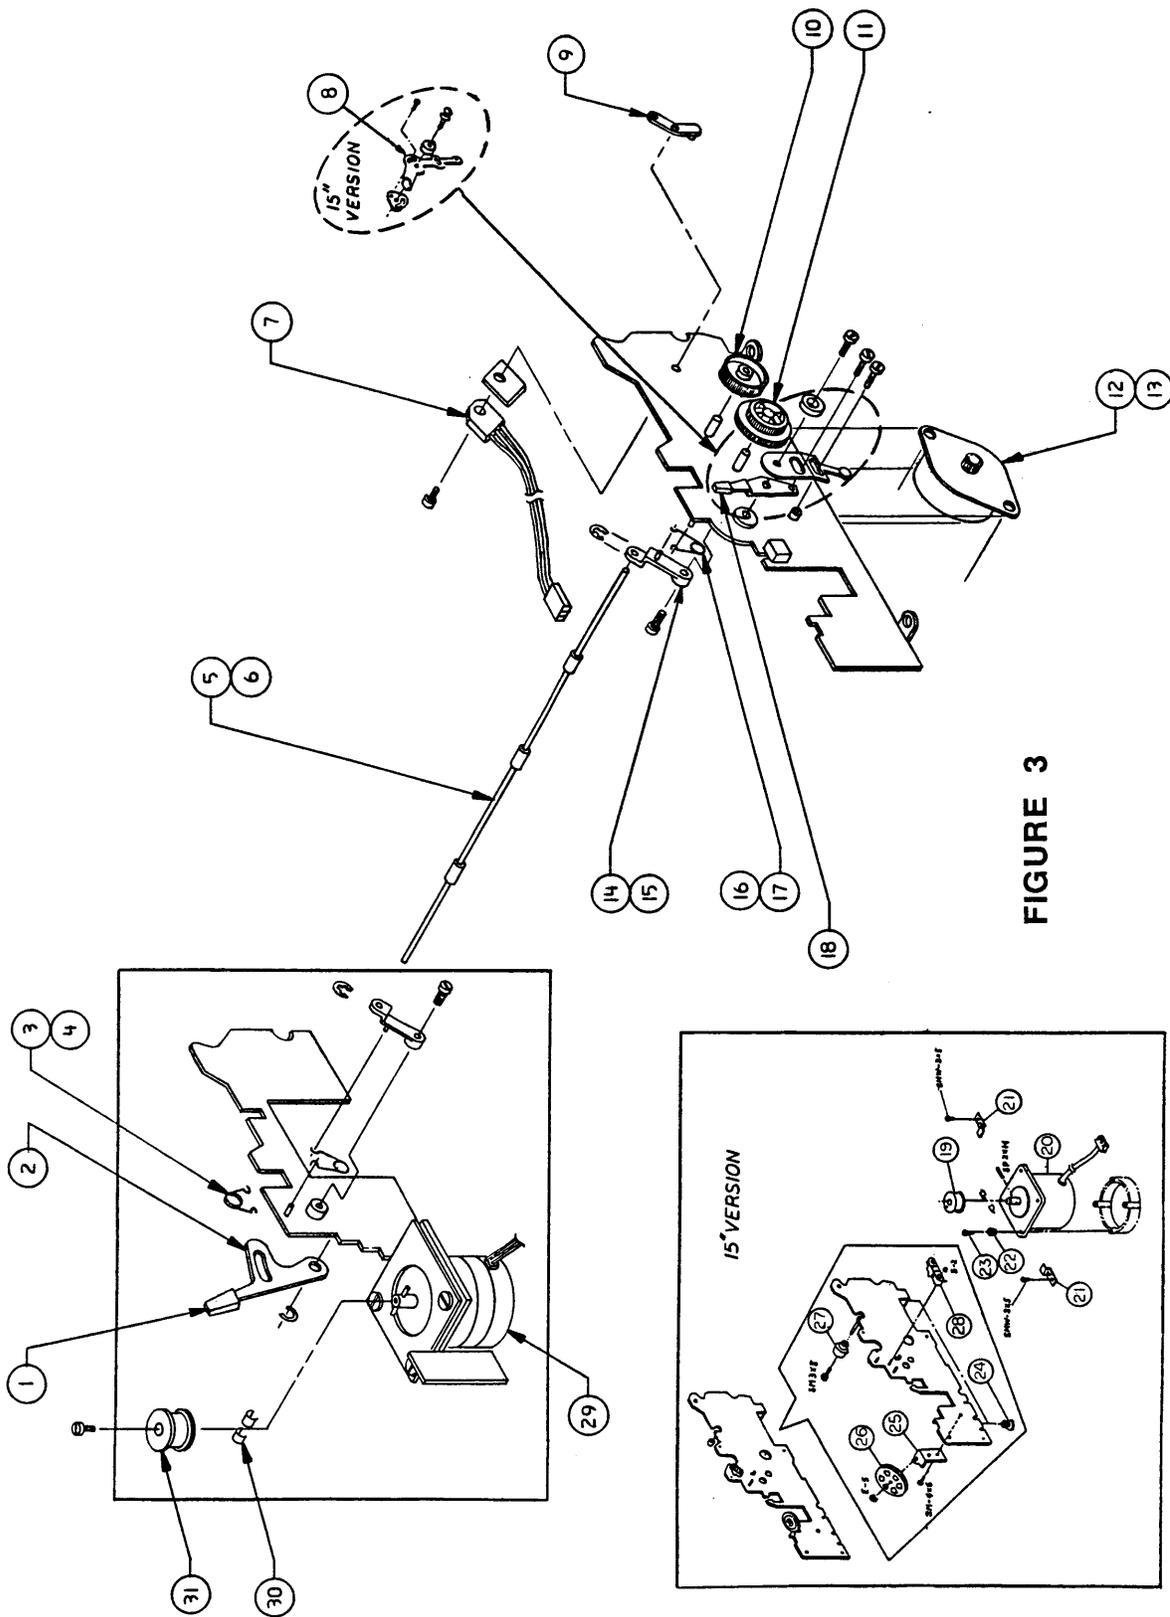

FIGURE 3
- 4.5 Main Frame (Figure 3)
IMAGEWRITER - MAIN FRAME (Figure 3)